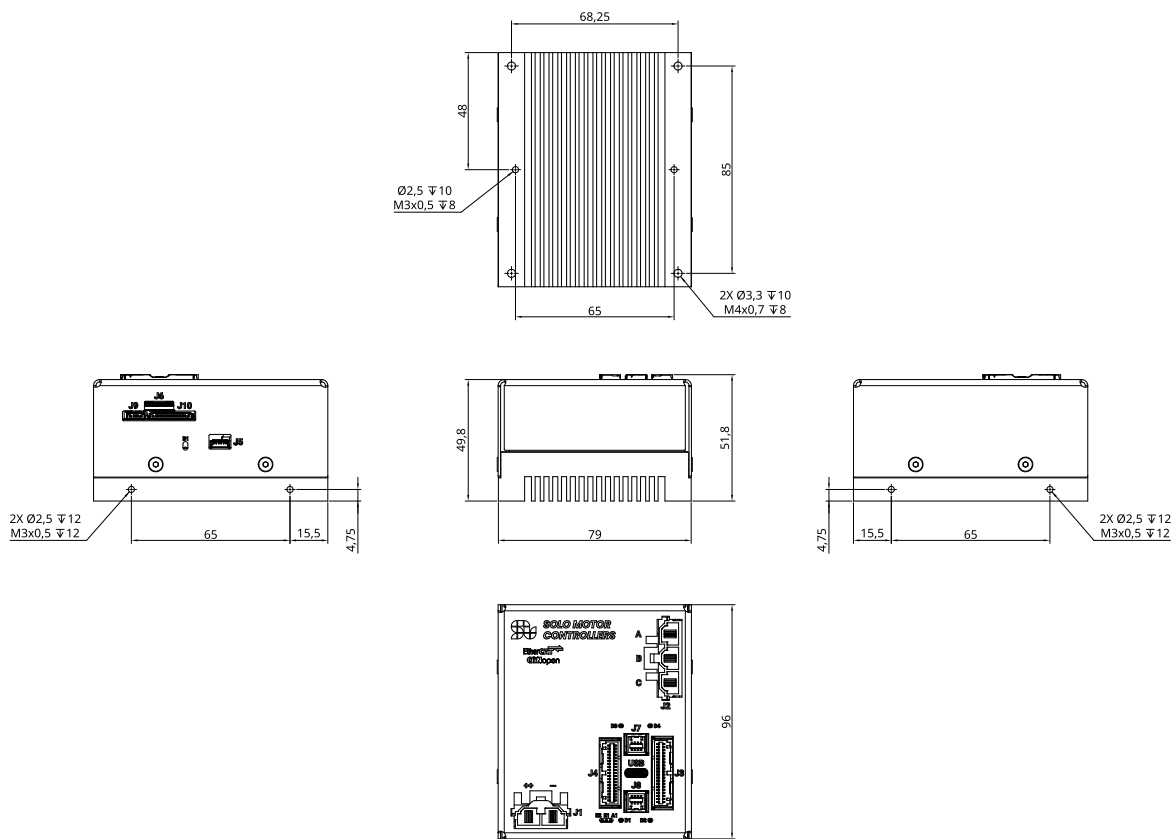

Figure 6. SOLO PRO 80-60 assembly drawing — all dimensions in millimetres.
The SOLO PRO 80-60 measures 51.8 × 79 × 96 mm (H × W × D). The fully dimensioned drawing is given in Figure 6. All dimensions are in millimetres. Use it to lay out the mounting points, the cable entries and the keep-out zones in the enclosure.
- **Heatsink face.** The back of the heatsink carries four threaded holes on a **68.25 × 48 mm** pattern: **M4 × 0.7, 8 mm deep** and **M3 × 0.5, 8 mm deep**. Take the assignment of each hole from Figure 6. They are also the holes the DIN rail clip of Section 6.2 bolts to.